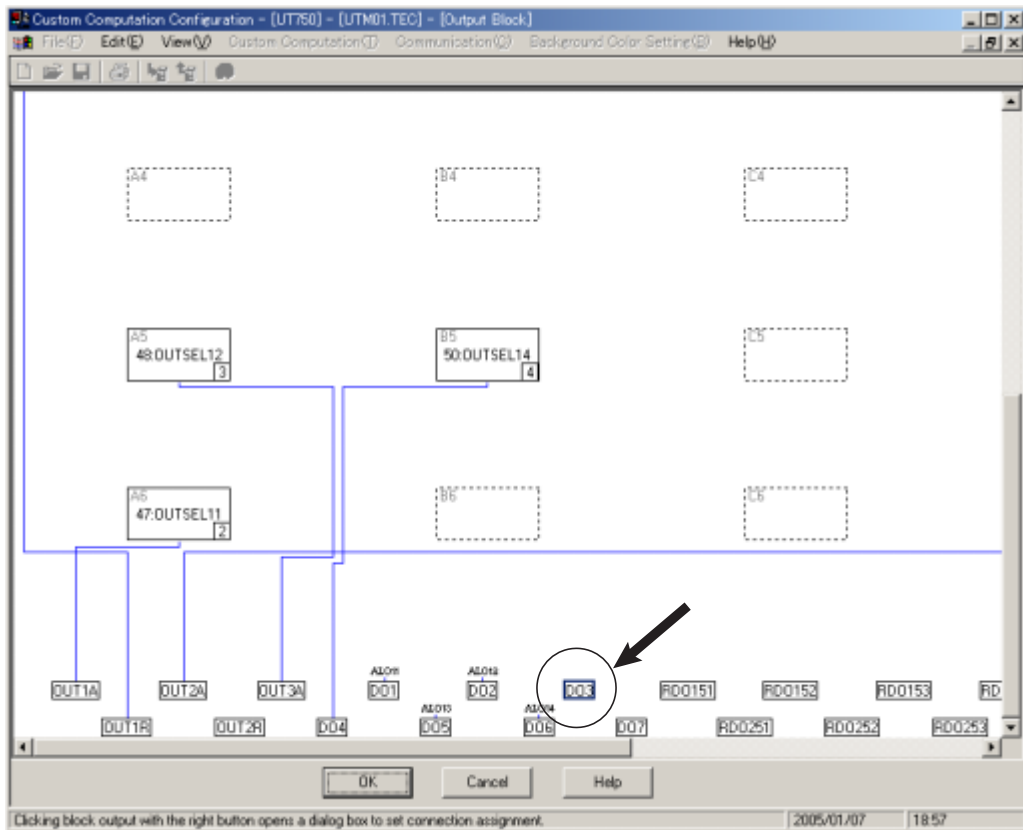

Figure 12.5.13 [Output Block] Dialog Box
- (1) In the [Output Block] dialog box (Figure 12.5.13), click the <DO3> output signal.